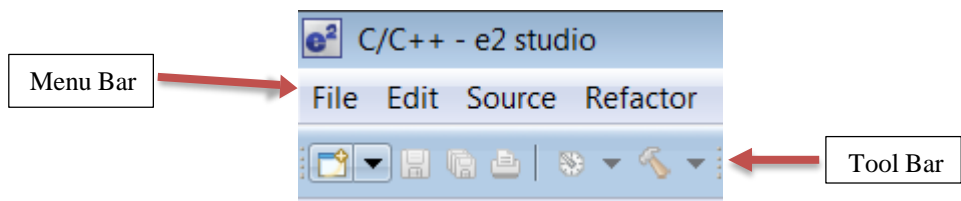

Figure 2.4 Menu and tool bar
- 3. You are now in the workspace that you want to import the project into. Click the **File** menu in the menu bar, as shown in Figure 2.4.